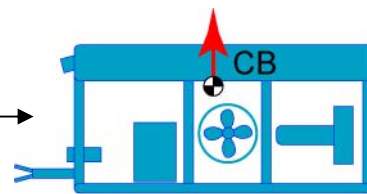

**Figure 10: With an Object Balanced on Its Point, the CG Lies on the Line Normal to the Surface**
- Likewise, if you balance an object on one of its points, the center of gravity will lie on the normal line passing through the point. See Figure 10.